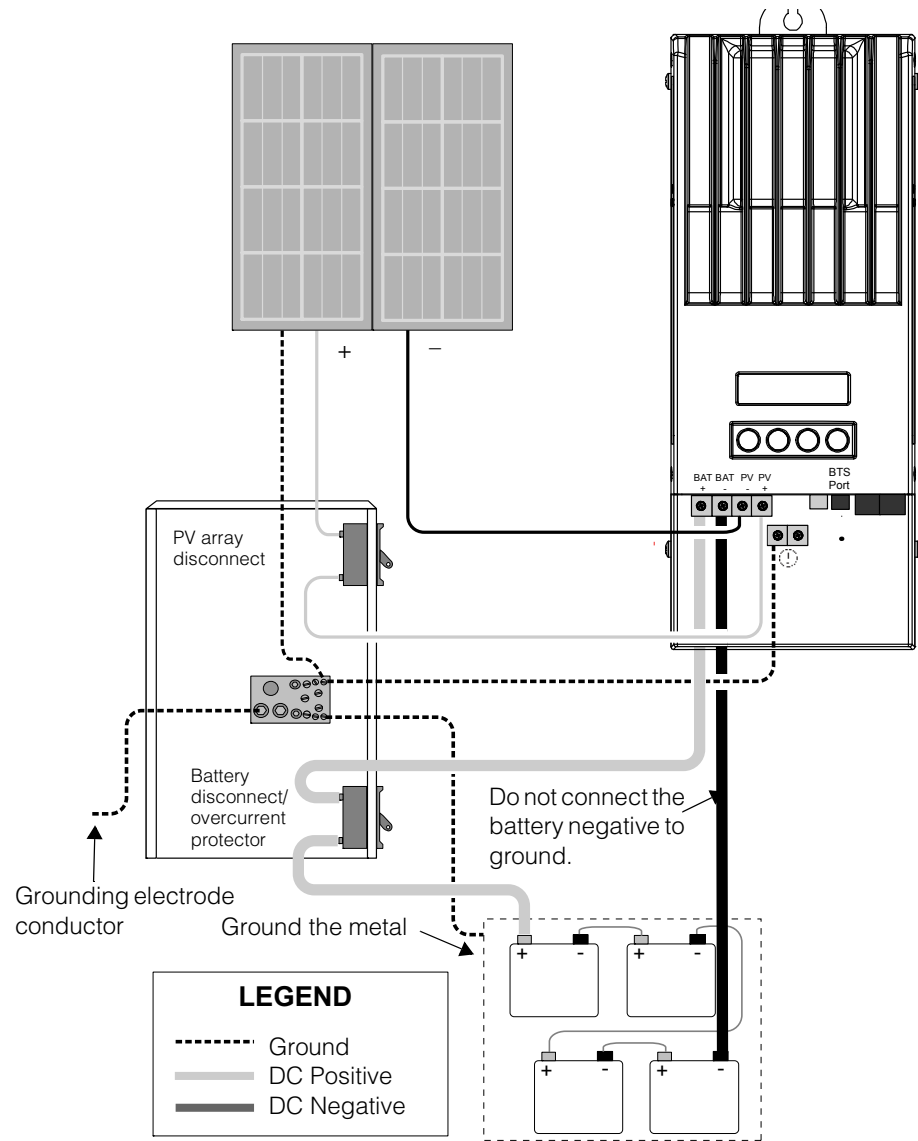

Figure 2-10 Charge Controller Power Wiring
The following procedure is illustrated in Figure 2-10.
| Do not connect the battery negative to ground. Bonding the battery negative to ground disables the unit's internal PV ground-fault protection. For more information, see "Grounding" on page 2-9. See Figure 2-10 for correct routing of the battery negative. |
2. Ground the solar charge controller. Connect a grounding conductor between an solar charge controller ground lug and the system ground (as shown in Figure 2-10).